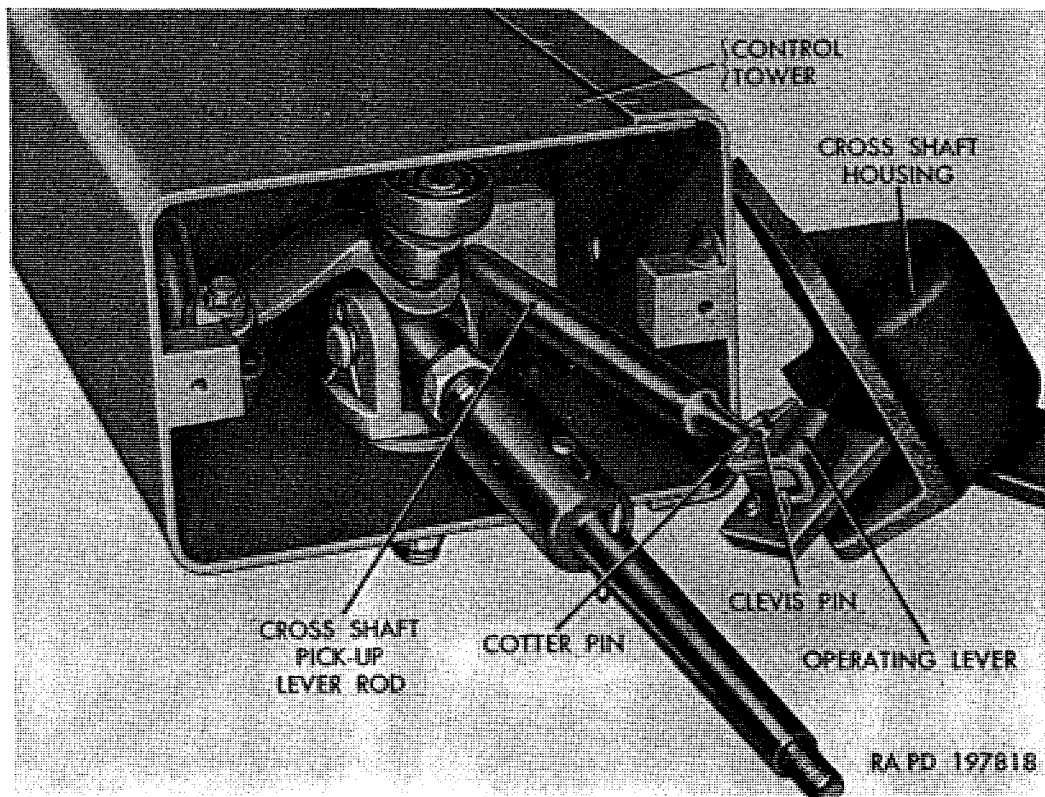

Figure 202. Removing cross shaft housing.
- (5) Remove bushing-type bearing (YY) from reduction unit idler lever (XX) only if inspection shows necessity for replacement.
- (6) Remove cotter pin from control tower support (AL) only if new pin is to be installed.
- (7) Slide control-tower-to-cab-floor seal off control tower.
- (8) Remove adjusting nuts (AD and AB) and shift lever trunnion (AC) from selector-lever-to-transmission-shift-lever rod (AE).
- (9) Unscrew transmission shift control lever knob (A) from gearshift hand control lever (F).
- (10) Remove two screws (B and C) and lockwashers (D); then remove control tower cap (E) from control tower (SS).
- (11) Remove bolt (CC), nut (LL), spacer (FF), two bolts (NN), and two nuts (MM) attaching cross shaft housing (BB) to control tower (SS).
- (12) Unhook pull-back spring (HH) from operating-lever-to-cross-shaft-pick-up-lever rod assembly (PP); then unhook spring from bracket inside control tower (SS). Remove spring (HH) from control tower.
- (13) Pull cross shaft housing (BB) away from control tower (SS) as shown in figure 202; then remove cotter pin and clevis pin (AA) attaching cross shaft housing (BB) and